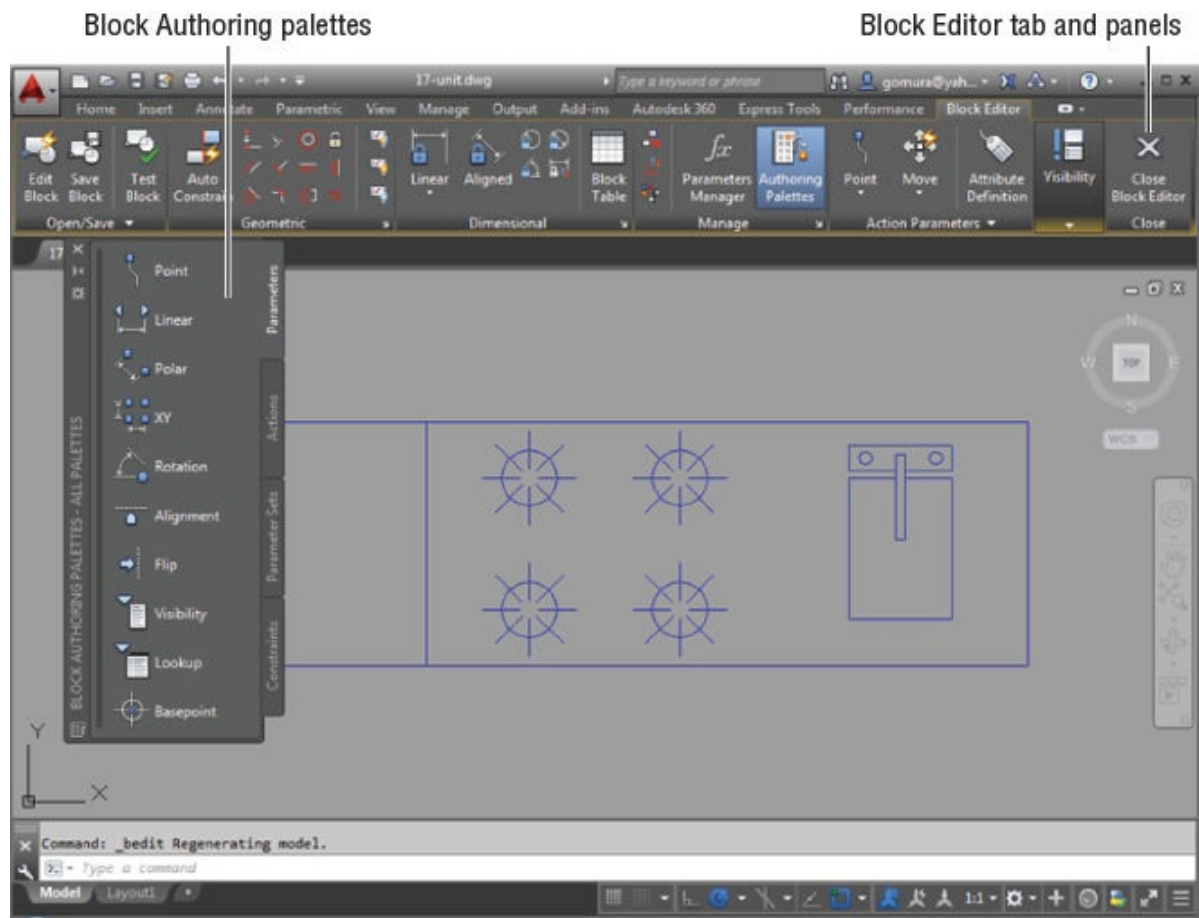

FIGURE 17.2 The Block Editor and its components
3. With the KITCHEN block name selected, click OK. You see an enlarged view of the kitchenette in the drawing area with a light gray background (see Figure 17.2).
The gray background tells you that you're in the Block Editor. You'll also see the Block Editor tab along the top of the drawing area and the Block Authoring palettes, as shown in Figure 17.2.